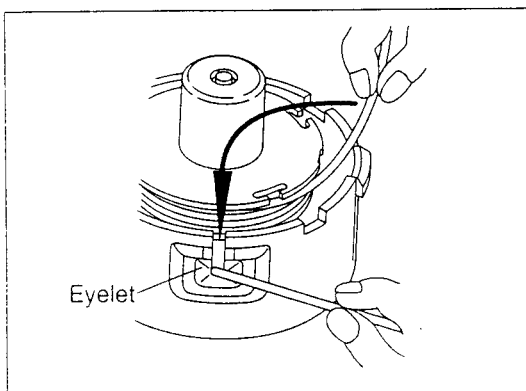

Fig. 48
6. Unhook the ends of the cord from their temporary position and feed the cords out through the eyelets in the side of the housing (Fig. 48).